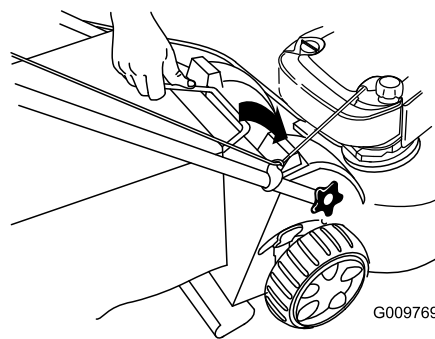

Figure 30
3. Insert the grass-bag handle into the grooves at the top of the machine (Figure 30).